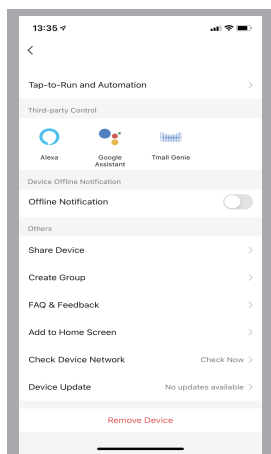

Fig. 21
**B).** Click “” on the main interface and enter into the interface Fig.21, users can get to know the guides of connecting EXVAC700S to the third-party, such as Alexa, Google home, etc, to create group, to check device network or update the firmware of the robot or remove the device.